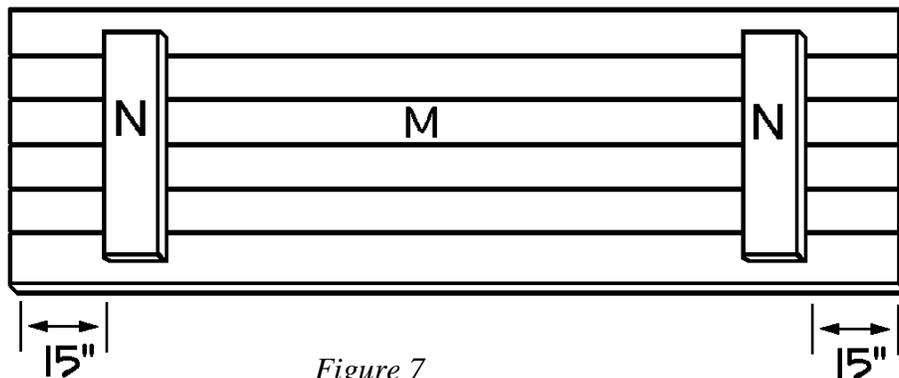

Figure 7
1. If you purchased material already laminated, trim the piece to 19-1/2 x 51-1/2" to make the top (M). Then skip down to Step 4.
2. To make the laminated top (M) yourself, cut six lengths of 1 x 4 pine, each 51-1/2" long. Before gluing the wood lengths together, rip a minuscule amount from each edge to ensure a solid bond in the lamination process. Then spread glue on the adjoining edges, and place the lengths of wood side by side. Clamp them together securely, using at least two bar clamps, and leave them clamped overnight.
3. Trim the laminated section to make one top (M) measuring 19-1/2" by 51-1/2".
4. Sand every surface of the laminated top (M) thoroughly. Examine both faces of the top (M), and choose the better-looking one for the outside.
5. Cut two top braces (N) from 1 x 4 pine, each 16" long.
6. Attach the two top braces (N) to the inside face of the top (M). As shown in *Figure 7*, center the top braces between the long edges of the top, and place each one 15 inches in from the short sides of the top. Use glue and 1-1/4" screws spaced about 4 inches apart to secure the braces to the top.